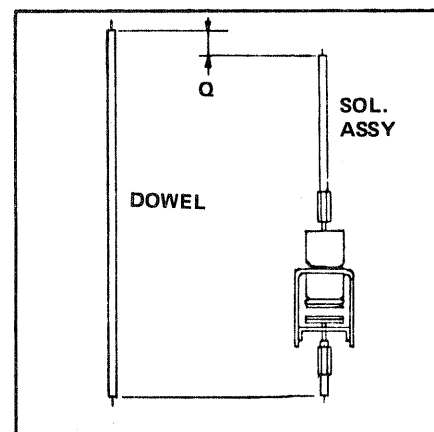

FIGURE 6-11 Compare the lengths of the SUS Dowel and the Solenoid assembly.
- C. Measure the difference in length between the SUS Dowel and the Solenoid assembly and write the measurement on Line Q under this Step on the Check List. The difference in length between the Dowel and the Solenoid assembly is the amount to be trimmed from the 6" Dowel piece to make the Solenoid assembly the same length as the SUS Dowel it will replace. The lower (6") Dowel piece is trimmed so the Solenoid is installed low in the piano to give sufficient clearance when the Solenoids are staggered. See FIGURE 6-11.